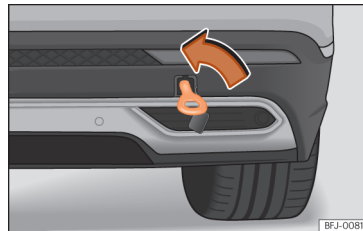

Fig. 227 Right side of the rear bumper: towline anchorage screwed in.
- Screw the towing eye in the housing by turning it to the maximum **anticlockwise** »» Fig. 227 , »» ①. Use a suitable object that can completely and securely tighten the towing eye in its housing.